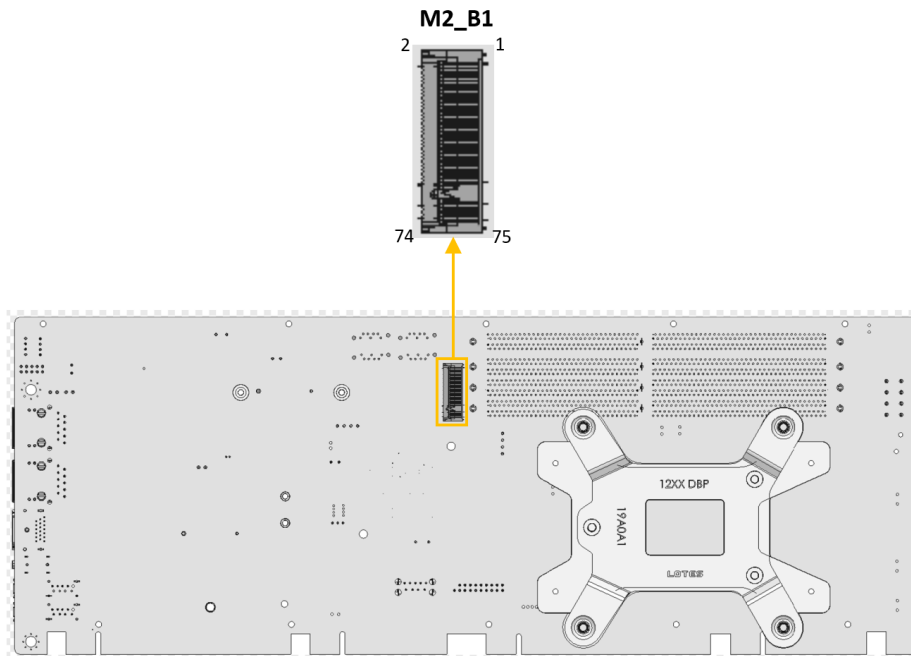

Figure 3-16: M.2 M-key (2242/2280) Slot Location
- CN Location:** See Figure 3-16